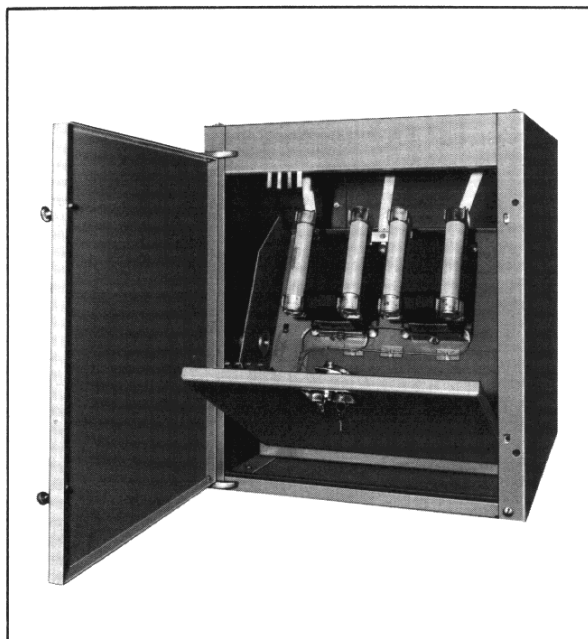

Figure 1-10
1.2.6 Disconnecting Type Potential (Figure 1-10)